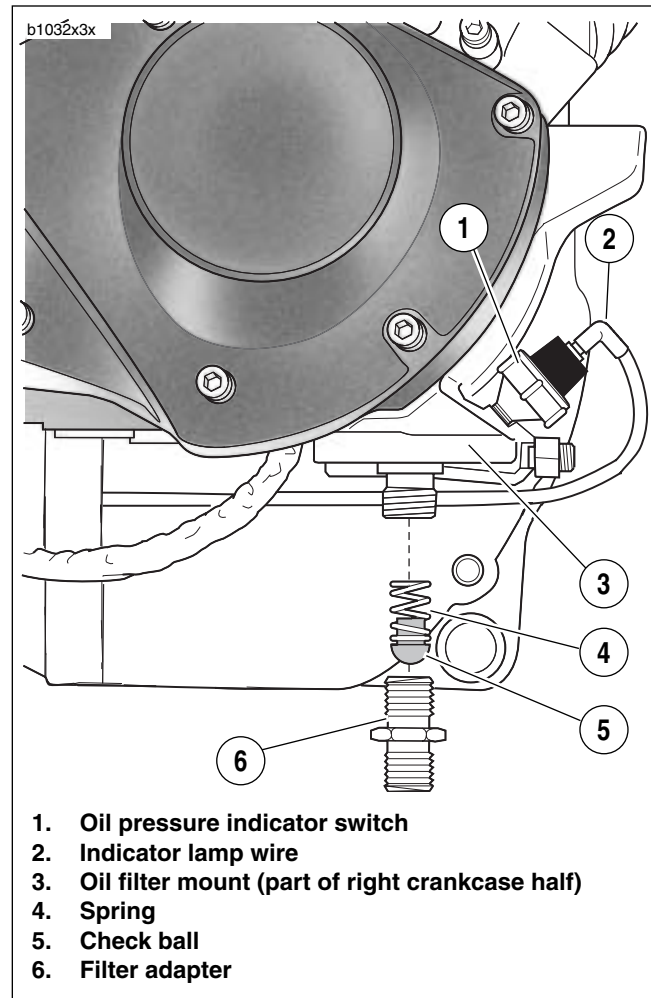

Figure 3-122. Oil Filter Mount Assembly
See Figure 3-122. Oil is pressure-fed from the oil pump to the oil cooler via an external steel line. From the oil cooler, oil flows to the oil filter mount. Oil travels through the filter mount into the filter through the outer filter holes.
3. See Figure 3-122. Remove filter adapter (6) from filter mount (3). Remove check ball (5) and spring (4).
4. Detach indicator lamp wire (2) from oil pressure indicator switch (1). Remove switch using OIL PRESSURE SENDING UNIT WRENCH (Part No. HD-41675).
1. See Figure 3-122. Install oil pressure indicator switch (1) using OIL PRESSURE SENDING UNIT WRENCH (Part No. HD-41675). Tighten to 50-70 **in-lbs** (6-8 Nm).
2. Attach indicator lamp wire (2).